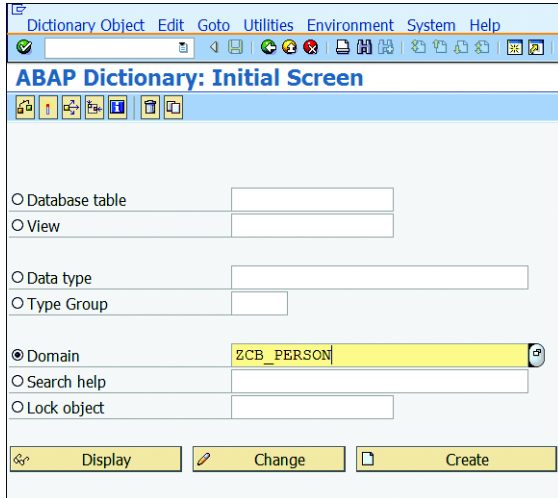

Figure 4.14 ABAP Dictionary: Initial Screen
1. On the initial ABAP Data Dictionary screen (Figure 4.14), select the DOMAIN radio button, input the name of the domain, and click the CREATE button. Domains are also repository objects, so they should exist in a customer namespace.